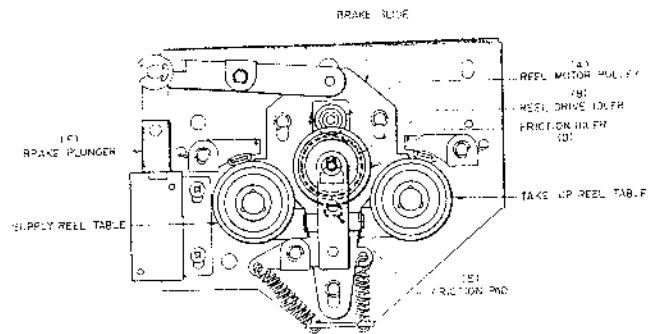
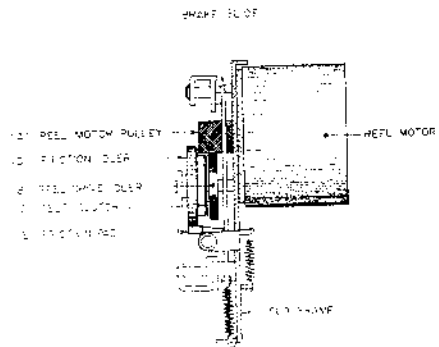

Fig. 5
Fig. 6
This mechanism employs the principle whereby the reel drive idler [Fig. 5 (B), Fig. 6 (B)] is regulated by the take-up side and the supply side depending on the direction of the reel motor pulley rotation [Fig. 5 (A), Fig. 6 (A)].
To ensure this transition, a felt clutch [Fig. 6 (C)] has been placed between the reel drive idler and the friction idler on the same axis [Fig. 5 (D), Fig. 6 (D)], and a spring to pull the two idlers for friction.
Damping force is applied only to the friction idler with the friction pad [Fig. 5 (E), Fig. 6 (E)] only when changing from the Stop Mode to the tape travel mode. This damping force is stepped just before the tape travel. Brake Plunger [Fig. 5 (F)] is used for moving the mechanism to put the reel drive idler in contact with the reel table and for controlling the friction pad.